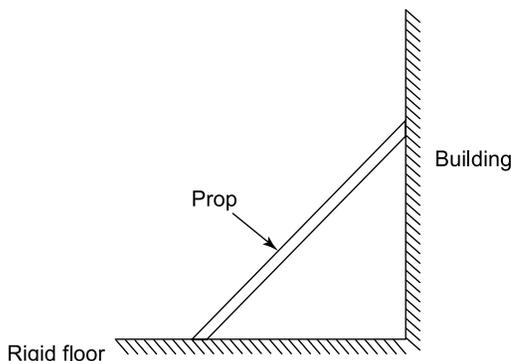

Figure 2.11
**Problem 18.** A steel prop is used to stabilise a building, as shown in Figure 2.11. (a) If the compressive stress in the bar at 20°C is 30 MPa, what will be the stress in the prop if the temperature is raised to 35°C? (b) At what temperature will the prop cease to be effective? Take  $E = 2 \times 10^{11} \text{ N/m}^2$  and  $\alpha = 14 \times 10^{-6}/^\circ\text{C}$ .